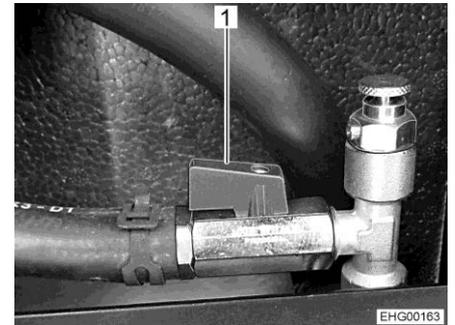

Fig. 170 Spherical valve (opened)
- Set the lever (Fig. 170,1) parallel to the pipe.